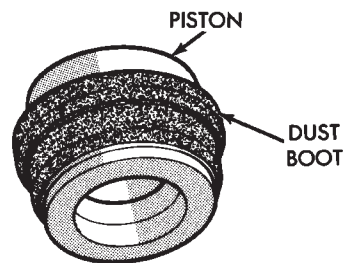

Fig. 71 Dust Boot On Piston
(5) Install dust boot on caliper piston and seat boot in piston groove (Fig. 71).